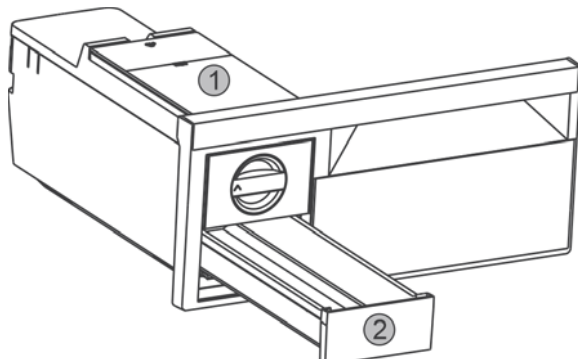

Fig. 37
- Take out the water tank Fig. 37 (1) and ice cube drawer Fig. 37 (2).